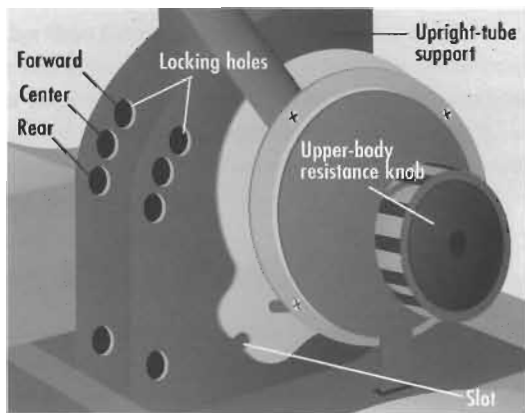

Figure 4
- Align the slot in each of the arm-exerciser poles with either the center or rear set of locking holes in the upright-tube support (Figure 4).